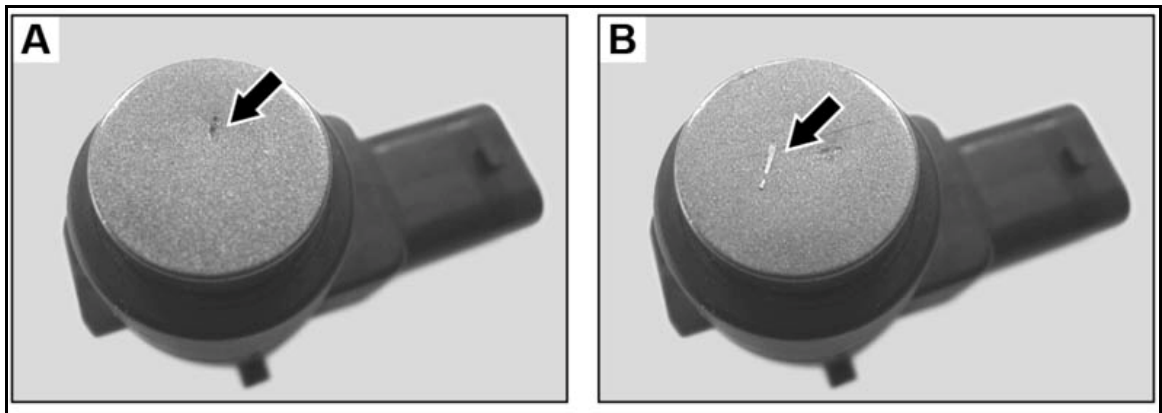
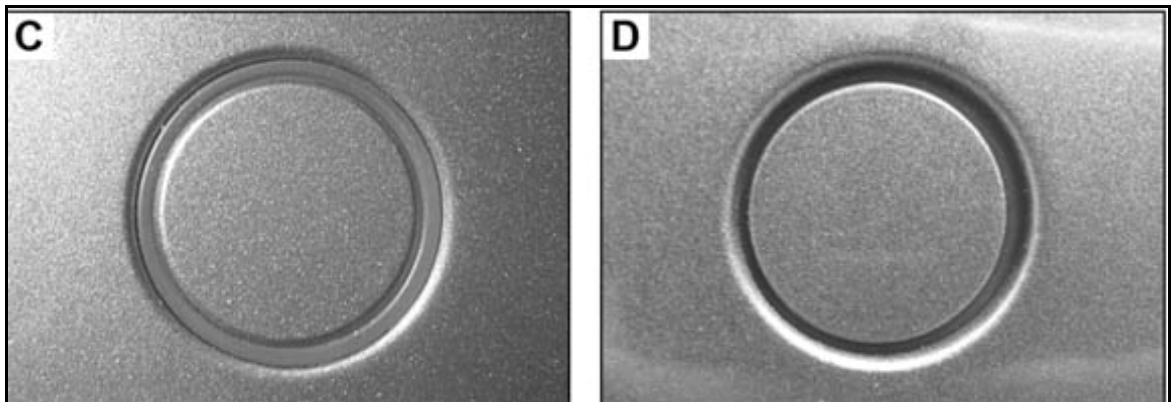
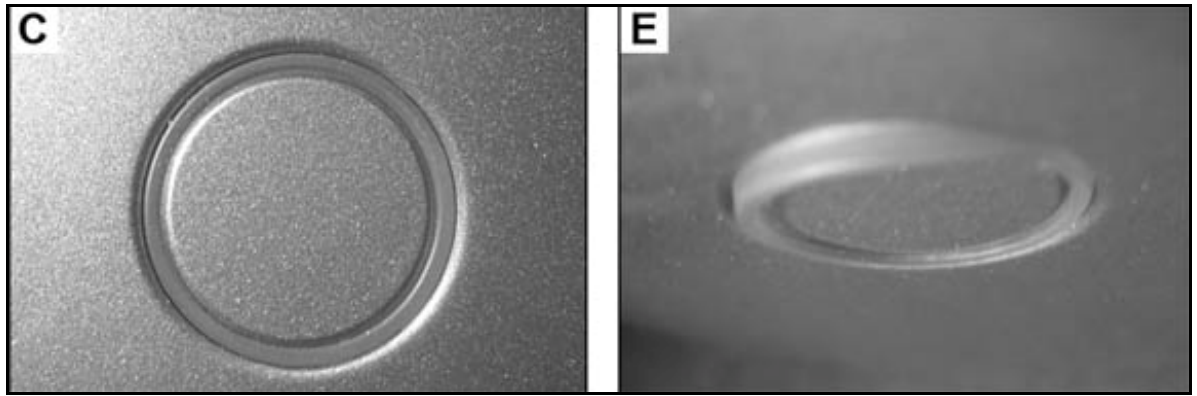

Figure 2. External damage through parking dents, stone chipping, etc.
Figure 3. Correct centered installation (C); Incorrect and uncentered installation (D). P54.65-4742-04
Figure 4. Correct installation (C); Incorrect installation (E).
To fix issues that cannot be clearly located via fault codes in fault memory, check for correct and central installation (Figure 3) (C) or for any damage caused by stone chippings (Figure 2) (A) (B).
The decoupling ring must be centered and custom fit when installed (Figure 3) (C) and Figure 4 (C).